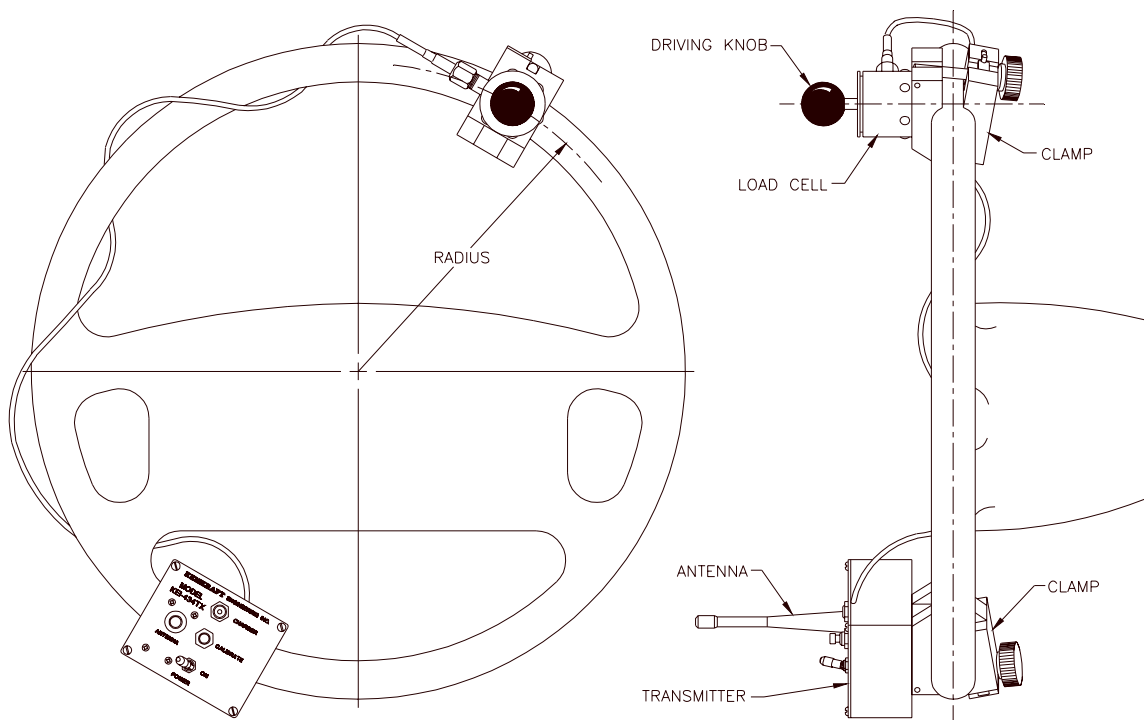

Figure 1
2. Review figure 1 below. Clamp the Transmitter onto the steering wheel at 7 o'clock; wrap the wire connected to the force sensor around the wheel to place the Force transducer onto the steering wheel at 1 o'clock. The force sensor and the transmitter should be directly across from each other as to balance the weight on the steering wheel.
Certain system parameters must be modified when changing to a new vehicle or adjustment is required. The Steering Wheel radius from center of wheel to the middle of the handgrip must be changed when switching to a new vehicle. (see figure 1)